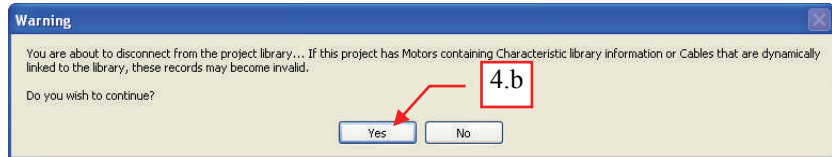

Fig. 3
- b. The “Warning” dialog box will be displayed. Click the “Yes” button. See Fig. 3.